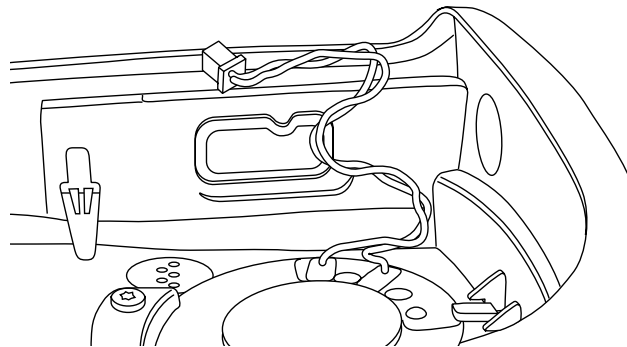

Figure 2-11 Bend the Wires into an “M” Shape
- a. Form the wires into an “M” shape so it can collapse on itself like an accordion with all of the wire up in the top corner of the radio away from the shields. Place three bends in the wires spaced approximately 1 cm apart to give the wire an “M” shape (Figure 2-11).
- b. Bend the wires up from the speaker so the wires are positioned toward the top of the radio (Figure 2-11).